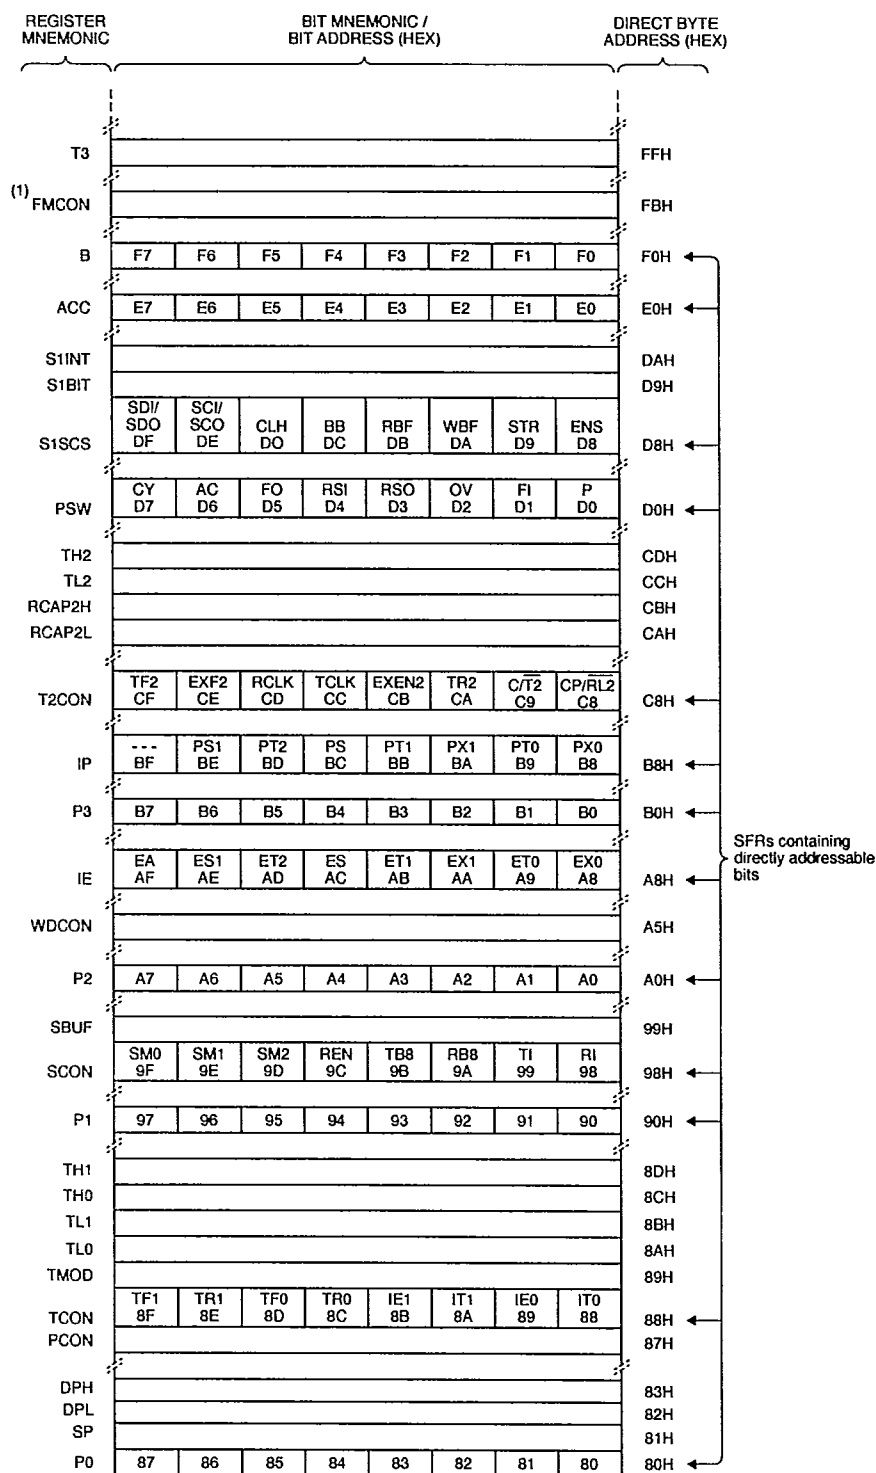

Fig.6 Special Function Registers (SFR) memory map.
- The SFRs can only be addressed directly in the address range from 128 to 255 (Figure 6 illustrates the SFRs memory map).
- SFR through Direct addressing at address locations 128 to 255 (see Figure 6).